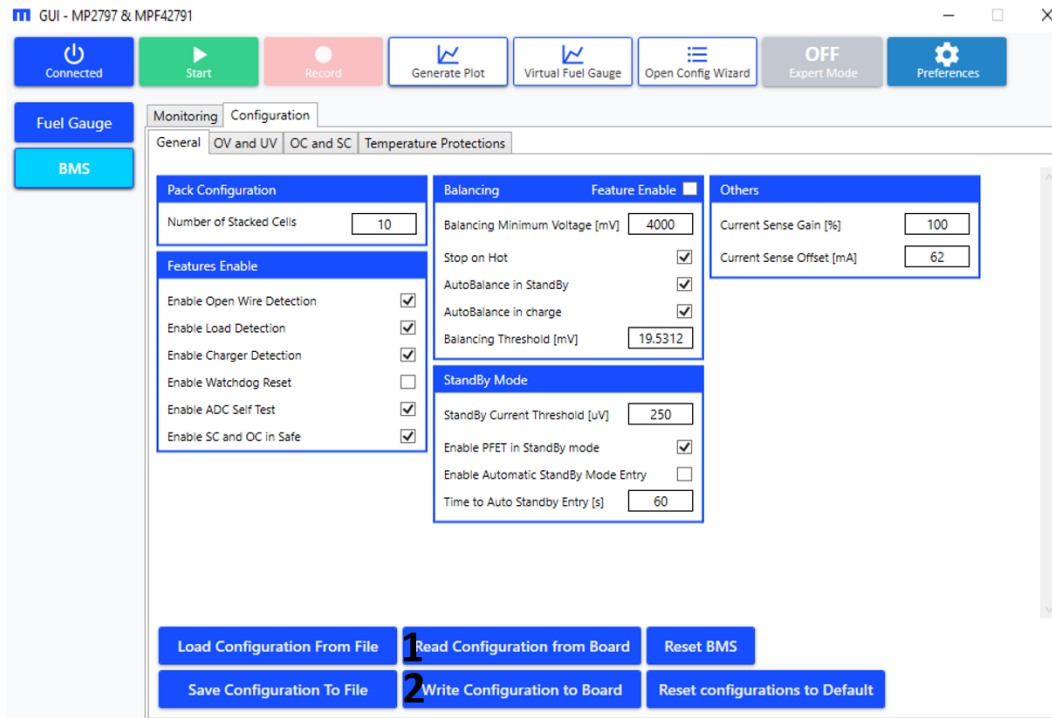

Figure 49: BMS Configuration (Read and Write Buttons)
3. Click “Read Configuration from Board” to read the configurations of the BMS and overwrite the BMS configurations in the GUI (denoted as “1” in Figure 49 on page 37).
4. Click “Write Configuration to Board” to write the configurations stored in the GUI to the memory of the BMS (denoted as “2” in Figure 49 on page 37).